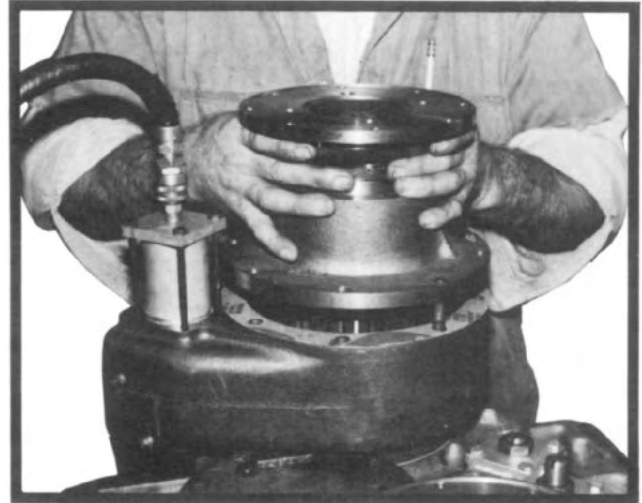

Fig. 32
25. Apply gasket to housing assembly and install declutch carrier with eight capscrews, tightening to correct torque. Declutch carrier must be installed so oil seal drain passage is to the bottom of the case (see fig. 32).